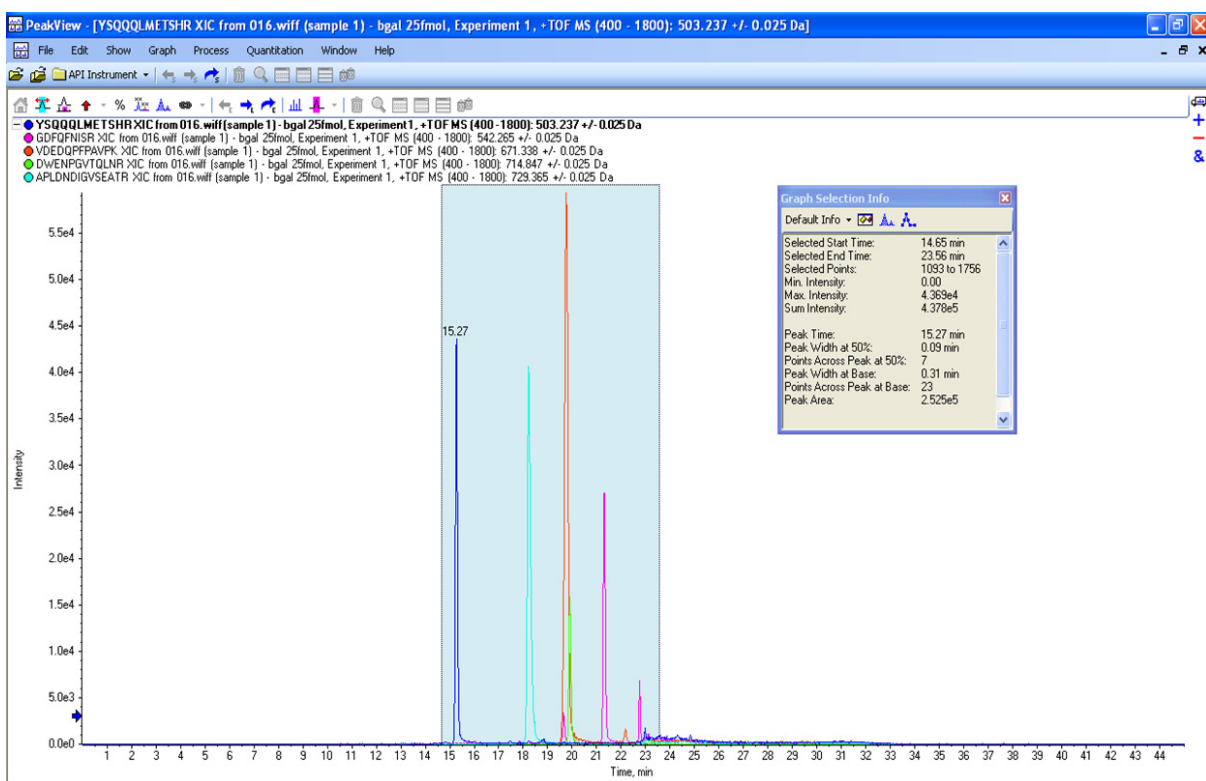

Figure 1-29 TOF MS XICs of 5 peptides from Beta-Galactosidase NanoLC Ultra trap elute run (25 fmol on column)
5. In the **XIC** pane, click and drag across the range of the more intense peaks, as shown in Figure 1-29.
Note: Most of the XICs obtained should have peak widths of ~0.17 minute half height on average and have peak intensities similar to that shown in Figure 1-29. Some peaks will be narrower and some will be broader.
Most of the XICs obtained should have peak widths of ~0.17 minute half height on average and have peak intensities similar to that shown in Figure 1-29. Some peaks will be narrower and some will be broader. Additionally, verify that the peaks elute within 5 minutes of each other.